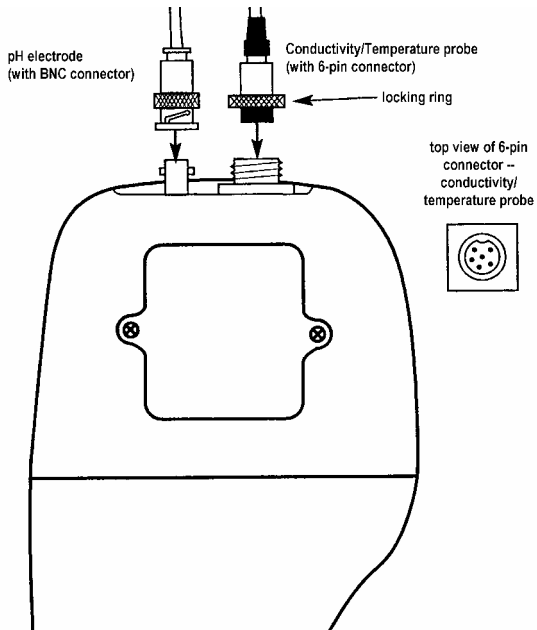

Figure 4: Connecting pH and conductivity/temperature probes
You can use any standard pH electrode with a BNC connector with this meter. Conductivity probes, “3-in-1” pH electrodes with a built-in temperature element, and temperature probes require a notched 6-pin connector (see Figure 4). For replacement probes, see the “Accessories” section.
1. Line up the notch and 6 pins on the probe connector with the holes in the connector located on the top of the meter. Push down and screw the metal sleeve to lock the probe connector into place. See Figure 4.